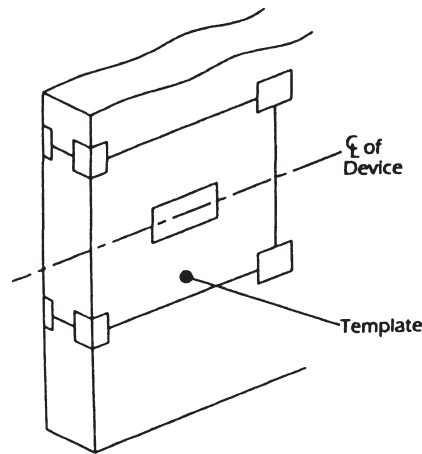

Figure 1-2
2. Align the center line of the exit device on template with marked line on the door, then tape template to the door and jamb (see Figure 1-2).